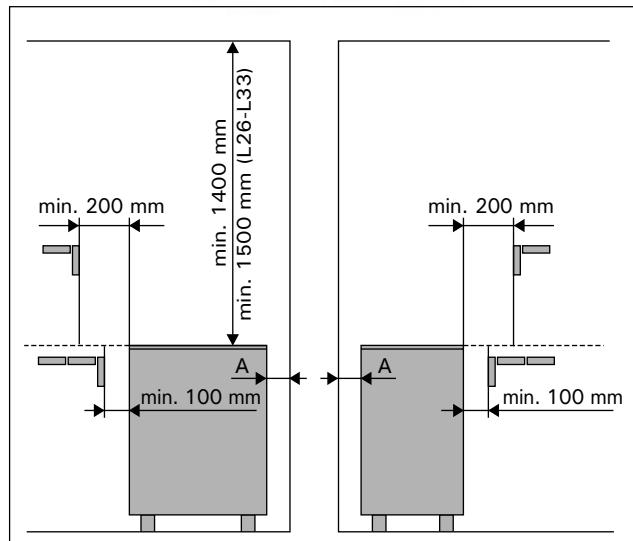

Figure 3.
- The location of the heater fulfills the minimum requirements concerning safety distances given in fig. 3 and table 1.
Before fixing the heater, the minimum safety distances to combustible materials must be taken into consideration. See Table 1 and Figure 3.